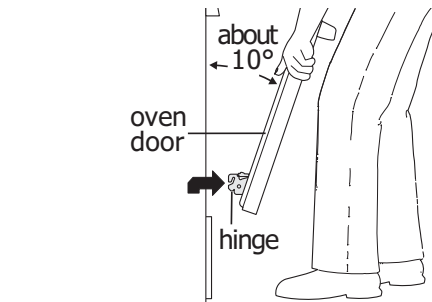
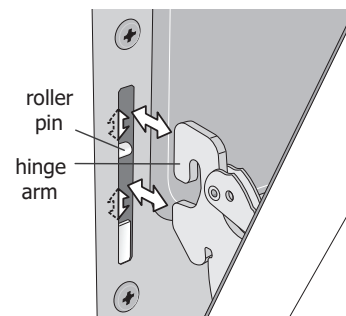

Figure 39: Holding door for removal
Figure 40: Replacement and location of hinge arm and roller pin
3. Firmly grasp both sides of oven door along the door sides. Do not use the oven door handle (See Figure 39).
5. Lift the oven door hinge arms over the roller pins located on each side of the oven frame (See Figure 39).
1. Firmly grasp both sides of oven door along the door sides. Do not use the oven door handle (See Figure 39).
2. Holding the oven door at the same angle as the removal position, seat the hook of the hinge arm over the roller pins located on each side of the oven door frame (See Figure 39 and Figure 40). The hook of the hinge arms must be fully seated onto the roller pins.